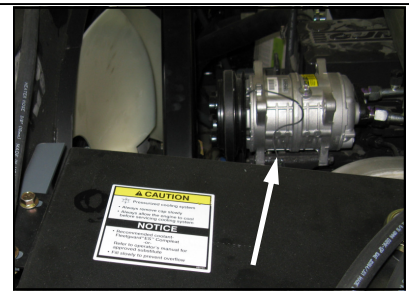

FIG 88-2
**TYPE**– The cab on your sprayer is equipped with a R-134a air conditioning system (fig. 88-2).